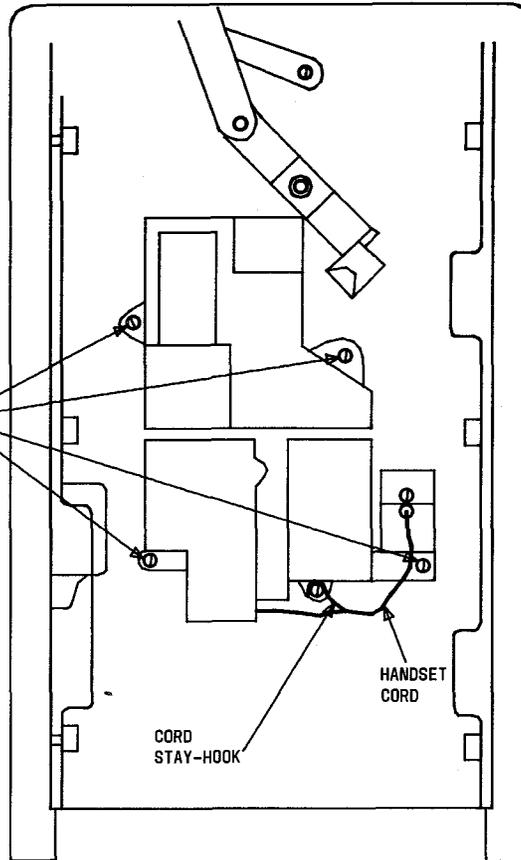

FIG. 1 - Coin Cover Unit
- [3] Align and secure coin dial unit using four self-locking mounting screws. See FIG. 1 and NOTE 1